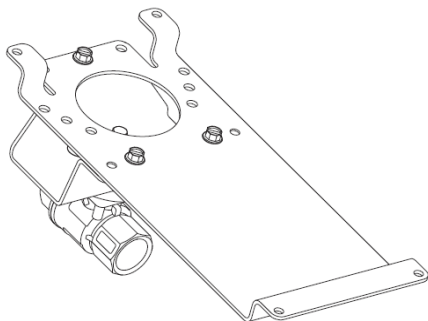
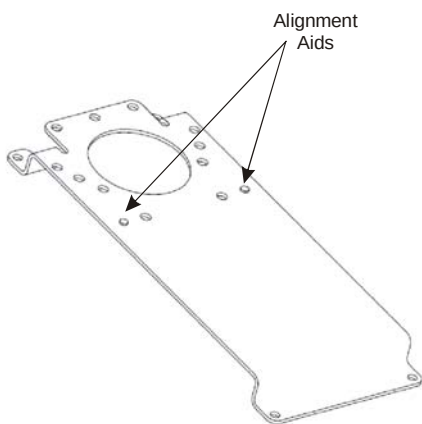

Figure 8: Weather Shield on Mounting Bracket
Figure 9: Raised Alignment Aids
4. Secure the weather shield enclosure mounting bracket (Figure 8) to the valve adapter bracket by using the raised alignment aids (Figure 9) for positioning and the three 12-24 x 1/2 in. self tapping screws. Recommended torque is 31 to 40 lb·in. (3.5 to 4.5 N·m).